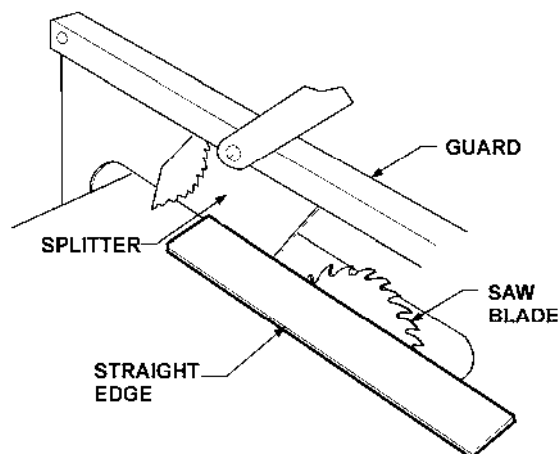

Figure 34
1. Lay a straight edge against the saw blade and the splitter as shown in Figure 34.